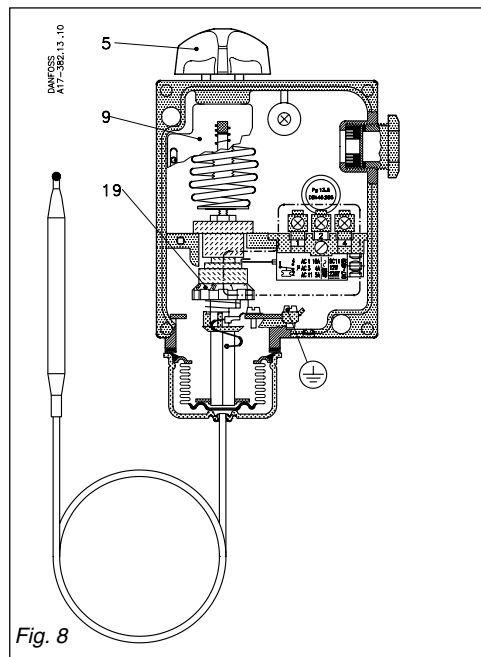

Fig. 8
2. Set the thermostat on 70°C using the hand knob (5), fig. 8.
3. Set the differential disc (19) on 3. This figure is obtained from the RT 101 nomogram, page 18.